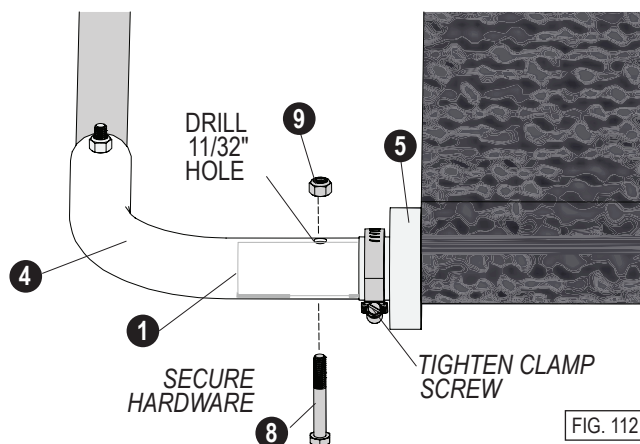

FIG. 112
- Using a hole in each **corner (4)** as a guide, match drill a 11/32-inch hole through each end of the **cross tube (1)**.
- Secure the **corners (4)** to the **cross tube (2)** with **bolts (8)** and **nuts (9)**, as shown in Figure 112.
- Ensure the tarp is centered. Adjust both **tarp collars (5)** to the tarp edge to keep the tarp centered on the cross tube. Install the collar clamp on the tarp collar and tighten the **clamp (6) screw** on both tarp collars.